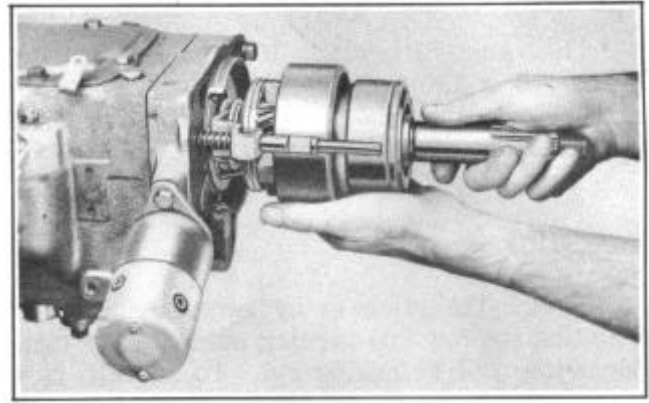

FIGURE 12
2. Remove the overdrive mainshaft and ring gear assembly, Figure 12, (Catch the rollers as they drop out of the free wheeling cam roller retainer.)